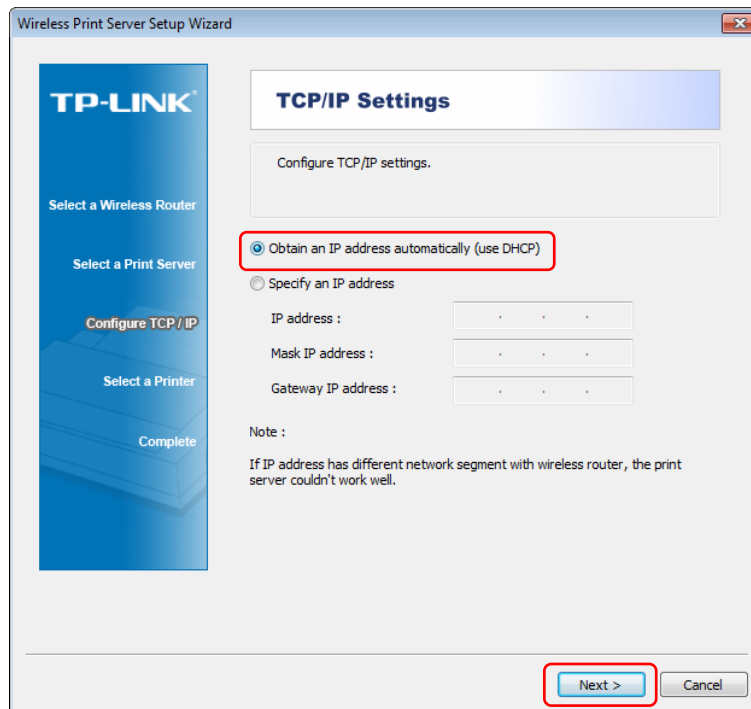

Figure 3-7
- On the TCP/IP Settings page as shown in Figure 3-7, select **“Obtain an IP address automatically (use DHCP)”** and then click **“Next”**.